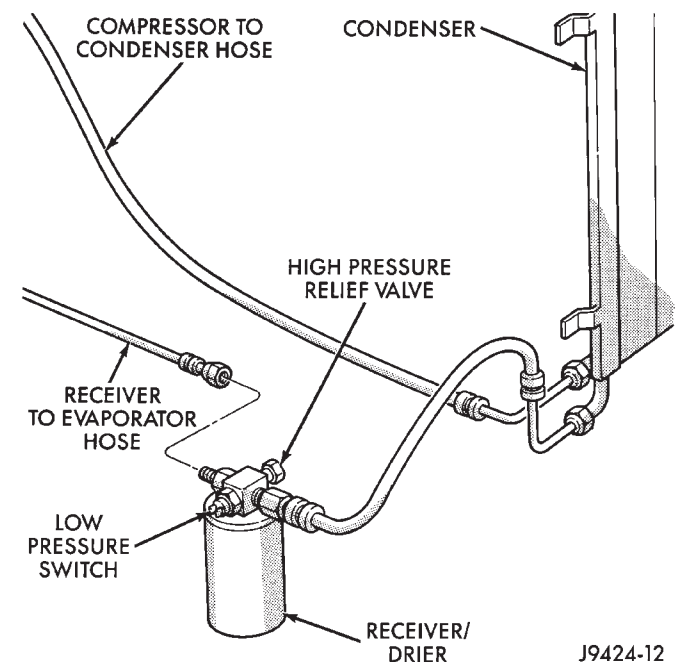

Fig. 18 Condenser and Filter Drier—LHD 4.0L Engine
- (1) Recover refrigerant from A/C system. Disconnect A/C lines from filter drier and plug the openings (Fig. 18).
- (2) Unplug the harness from the low pressure switch.
- (3) Remove the nut attaching the filter drier to the side sill weld stud.
- (4) Remove the filter drier.